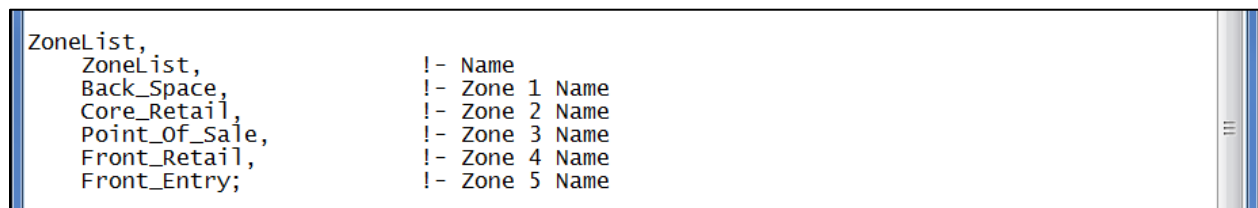

Figure 26. Example of ZoneList object inputs
- c. The feature creates one ZoneInfiltration:DesignFlowRate object that applies to the Zone or ZoneList Name “ZoneList” (Figure 18). Thus, you need to create a Zone List object in the EnergyPlus project file that contains the names of all the zones in the EnergyPlus project. An example is shown in Figure 26. You can find a list of all the zones in the EnergyPlus project file in the Zone object.